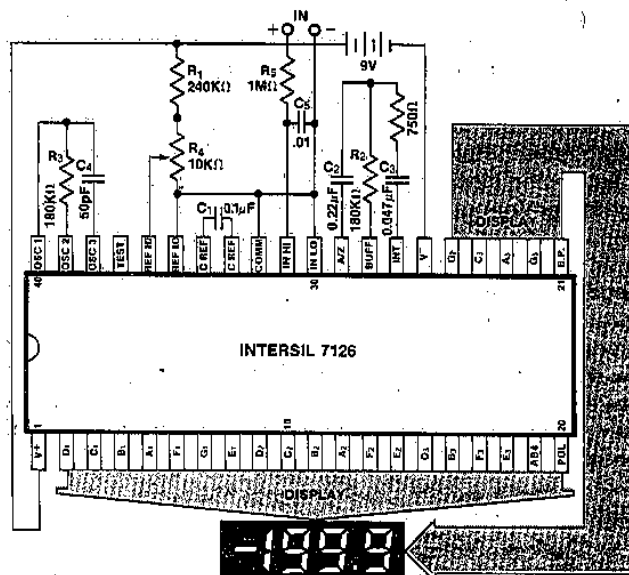

Figure 2: Clock Frequency 48kHz. (3 readings/sec)
**Note 6:** During auto zero phase, current is 10-20 $\mu\text{A}$  higher. 48kHz oscillator, Figure 2, increases current by 8 $\mu\text{A}$  (typ).